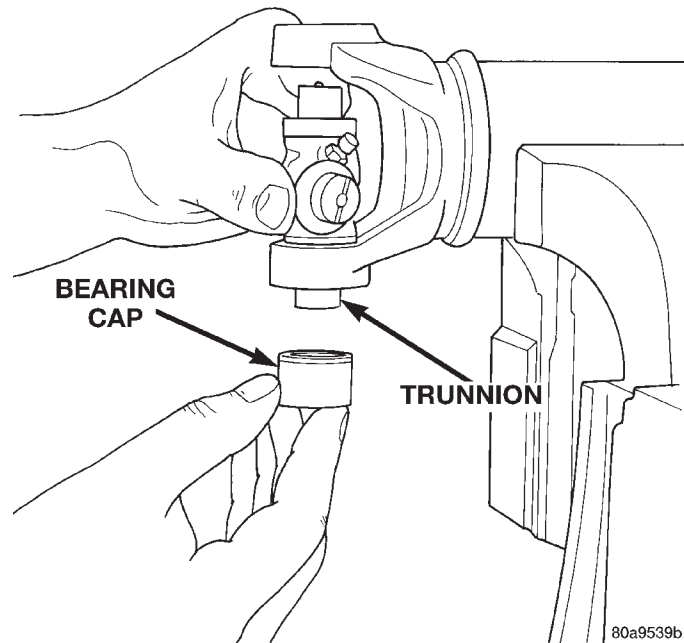

Fig. 22 Install Bearing On Trunnion
(3) Place a bearing cap over the trunnion and align the cap with the yoke bore (Fig. 22). Keep the needle bearings upright in the bearing assembly. A needle bearing lying at the bottom of the cap will prevent proper assembly.
(4) Press the bearing cap into the yoke bore enough to install a snap ring.
(5) Install a snap ring.
(6) Repeat Step 3 and Step 4 to install the opposite bearing cap. If the joint is stiff or binding, strike the yoke with a soft hammer to seat the needle bearings.
(7) Add grease to lube fitting, if equipped.
(8) Install the propeller shaft.